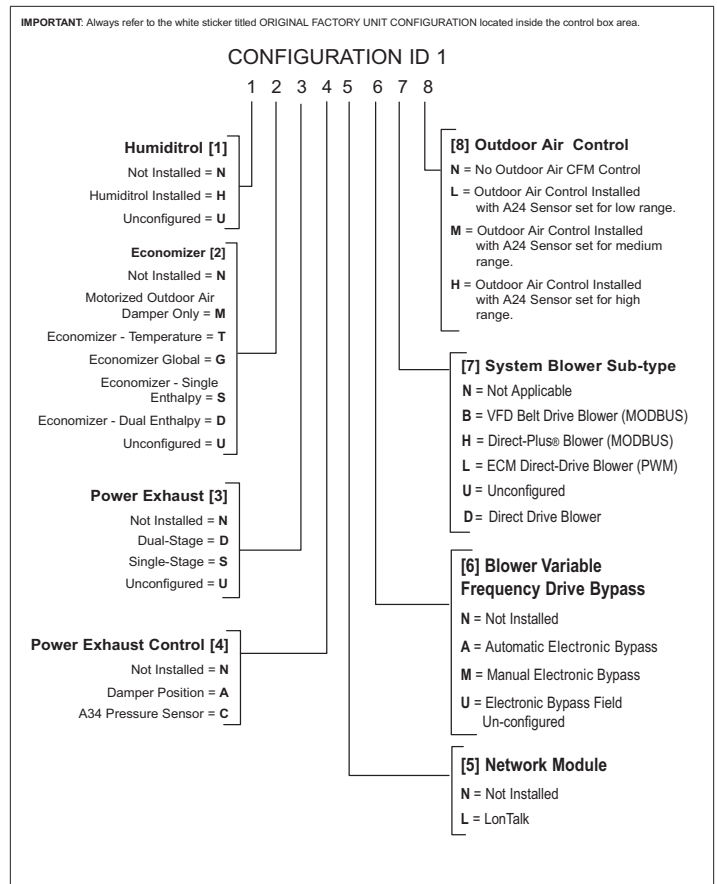
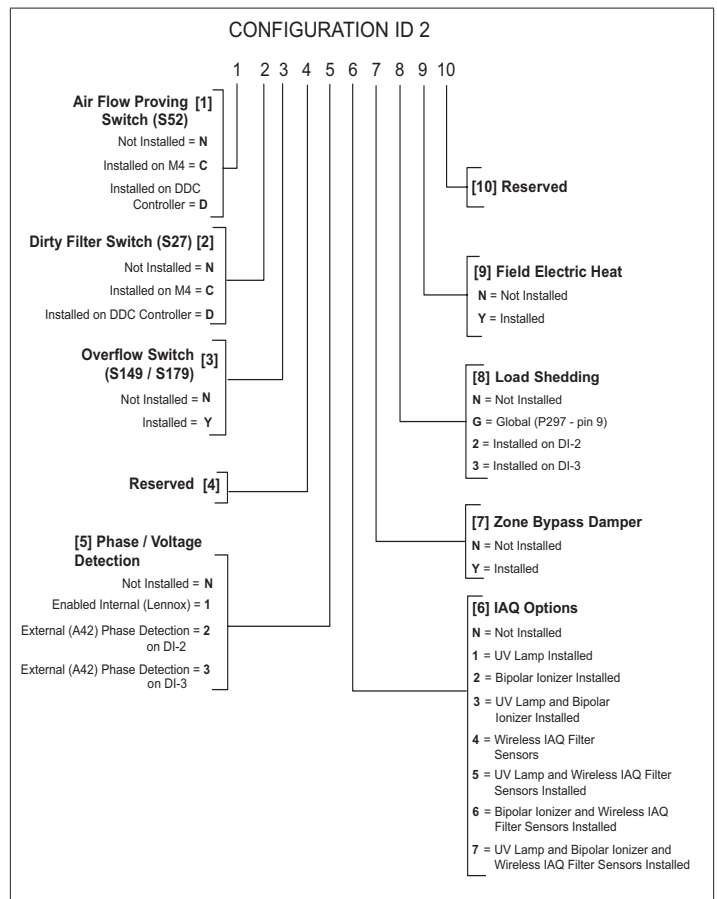

Figure 6. Configuration ID 1
Figure 7. Configuration ID 2
- RTU Information. Configuration ID 1 and 2 can be entered here. See figures “Figure 6. Configuration ID 1” and “Figure 7. Configuration ID 2” for further details.